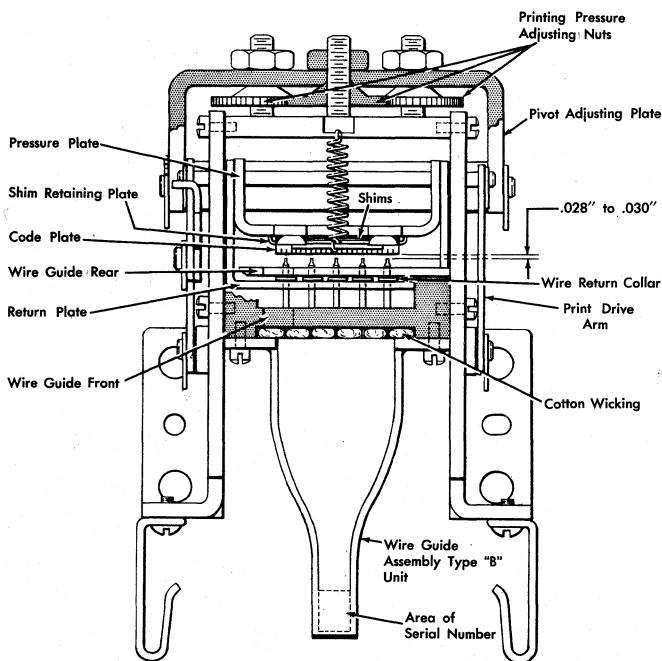

Figure 80. Printing Adjustment
1. Start with one .003-inch shim (P/N 305243) and two .007-inch shims (P/N 228296) between the pressure plate and the shim retaining plate (Figure 80). **NOTE:** No oil or
2. Turn the three large pressure plate adjusting nuts counterclockwise until snug (Figure 80). Lock in this position.
1. Turn in evenly on the three adjusting nuts (Figure 80), $\frac{1}{4}$ turn at a time, until printing is obtained. Snug up lock nuts after each step and space before punching to prevent damage to wires. A practical test to show up uneven printing can be obtained by disengaging the ribbon feed pawl and printing an H until the printing grows faint. Too much printing pressure will make the machine noisy and cause marks to appear when spacing.
2. Print arm roller (Figure 36) must be free to lift .010-inch off cam during print suppression to reduce noise and wear on cam. Check clearance with print drive spring removed. The lifting motion drives wire collars .005-inch closer to wire guide plate than their normal return after printing. If necessary, remove code plate shims and readjust printing pressure to maintain enough clearance to prevent wire return collars from striking wire guide rear (Figure 80). Code plate to wire clearance should now be .028-inch to .030-inch.